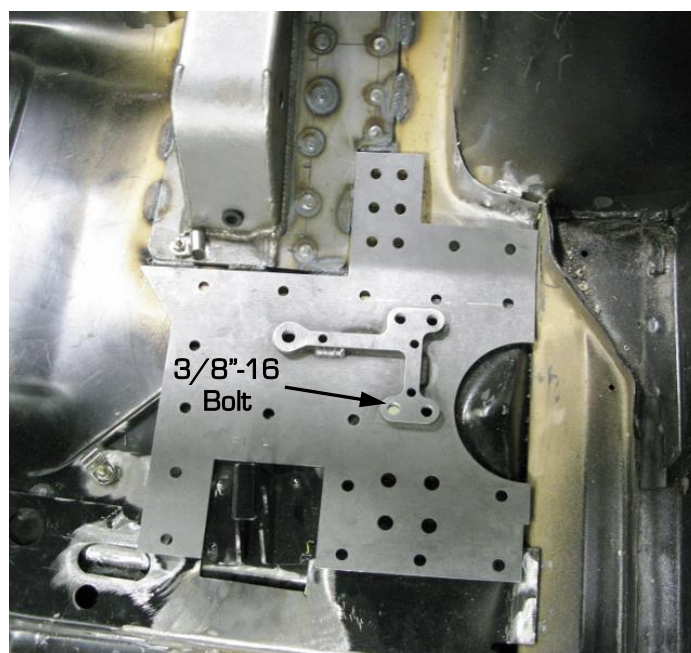

Figure 6 – Position Leaf Spring Floor Doubler
16. Position the DSE leaf spring pocket floor doubler on the top side of the floor inside the vehicle, above the leaf spring pocket assembly. Install one of the provided 3/8"-16 x 1"L hex head bolt through the pocket assembly into the floor doubler where there already is a hole in the floor pan from the factory. (Figure 6).